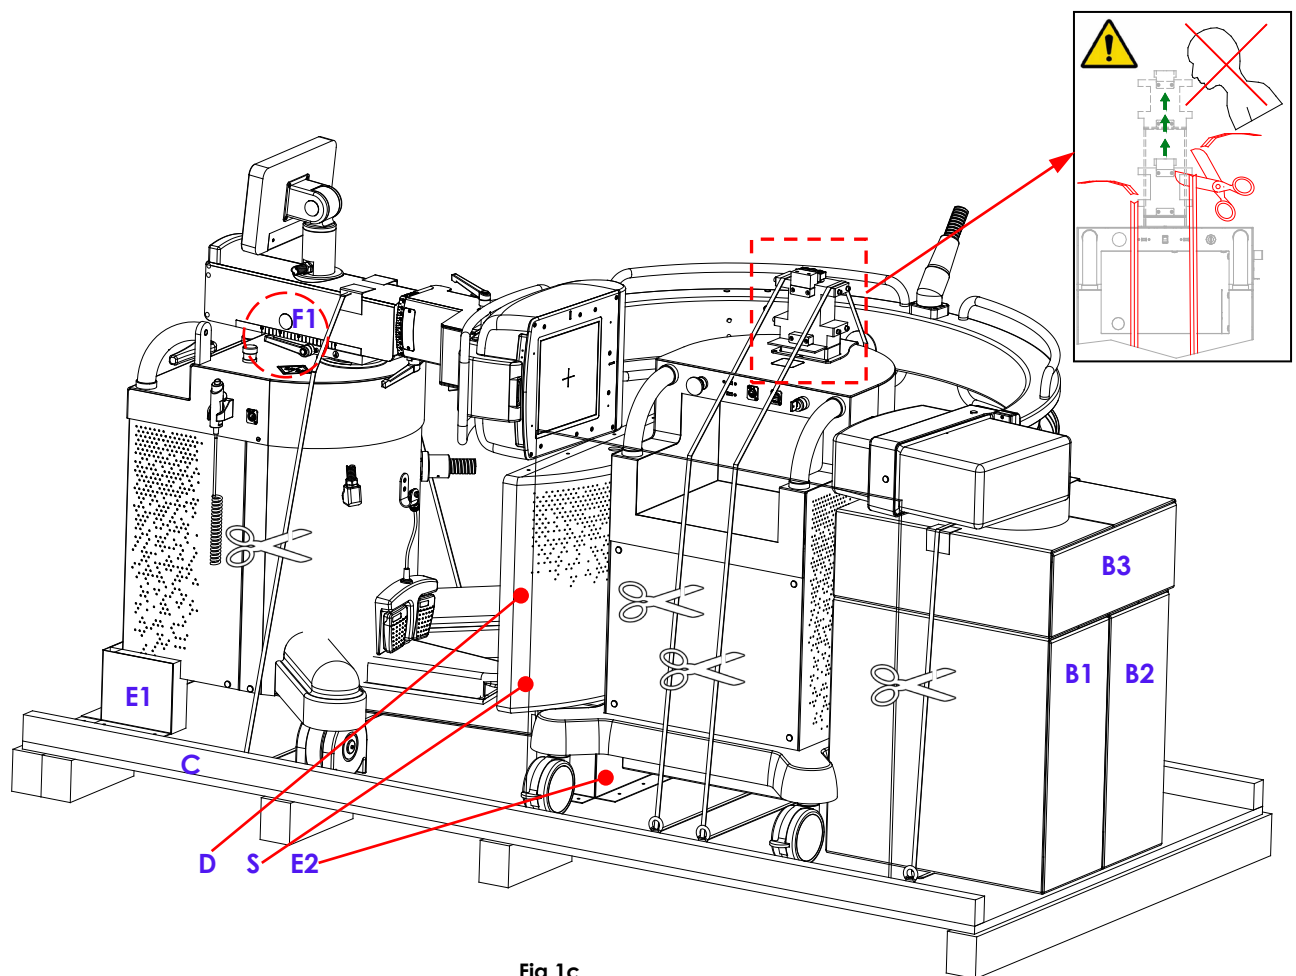
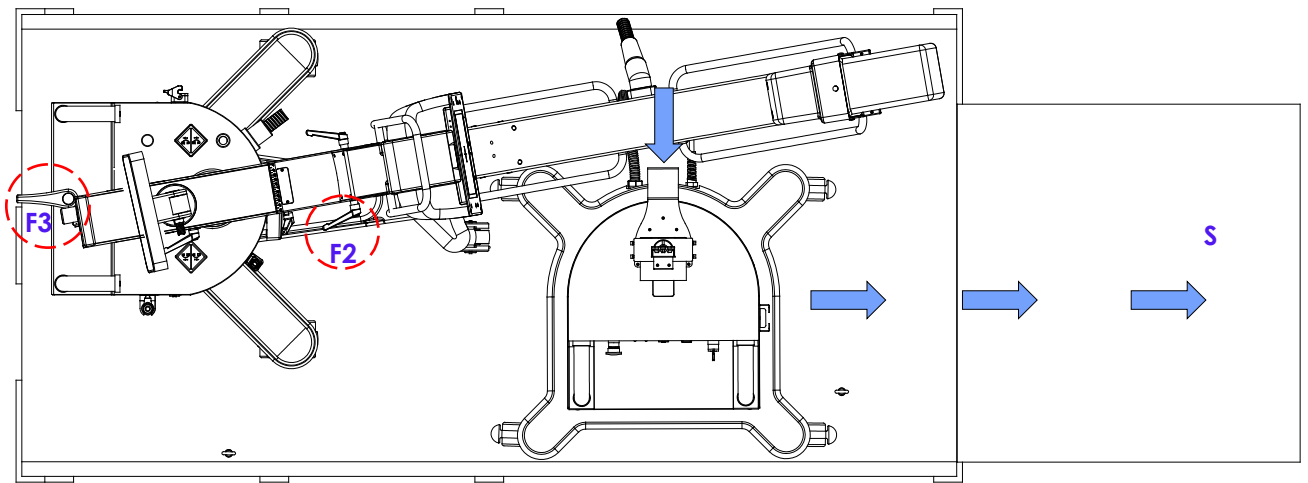

Fig.1c
Fig.1d
- Extract the wooden ramp (S) and place as shown in figure 1d.
- Remove the monitor/monitor cover supports (D). These need to be returned later (see paragraph 2.1 below).
- Turn the C-arm as shown in figure 1d by releasing the wig-wag brake (F1 in fig.1c) and the C-arm rotation brake (F2 in fig.1d), then slide the station down the ramp (S).
- Move the ramp (S) in front of the stand (figure 1e) and then slide the stand down the ramp after turning the handle (F3) to release the stand brake, as shown in fig. 1d.